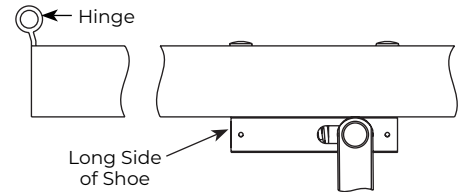

Figure 20 View from ceiling looking downward
**NOTE:** Orient shoe with long side of shoe toward hinge. (Figure 20)